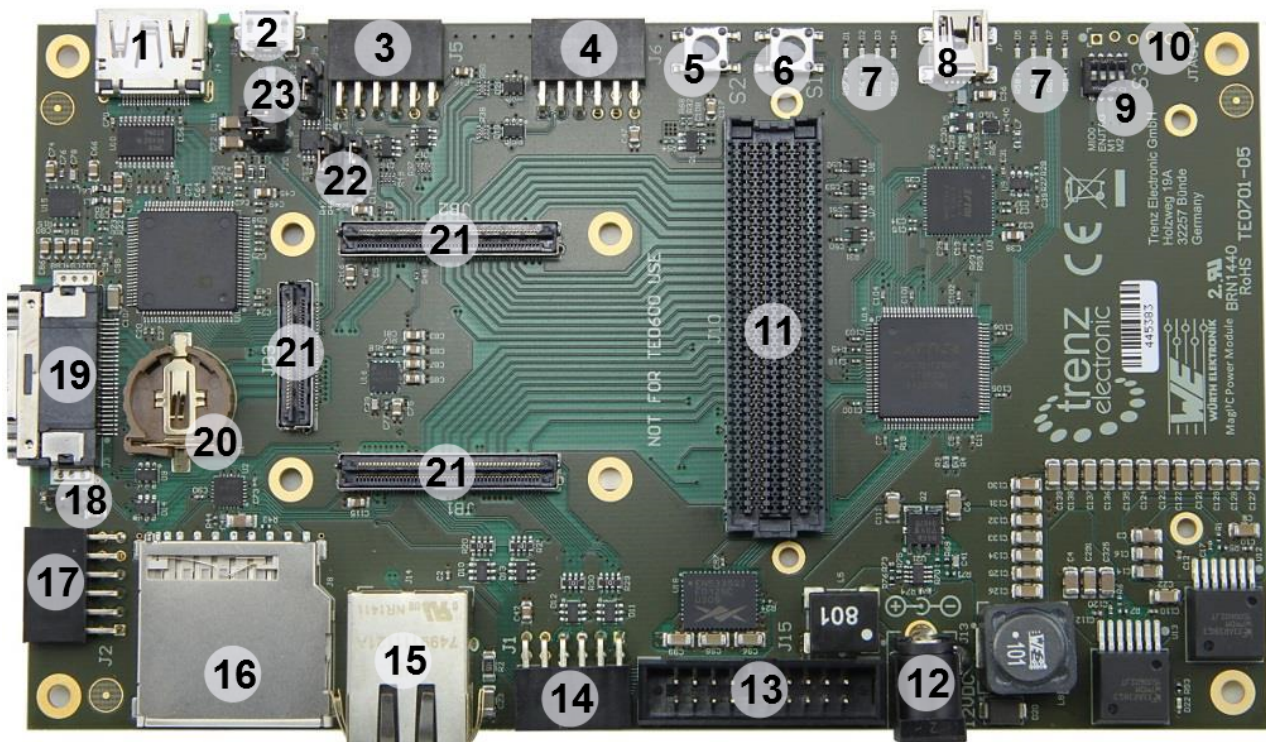

Figure 1: 4x5 SoM carrier board TE0701-05
Additionally, on the TE0701 Carrier Board there is a 4-bit DIP-switch (S3; see (9) in Figure 1) available. The default S3 switch mapping is as follows: